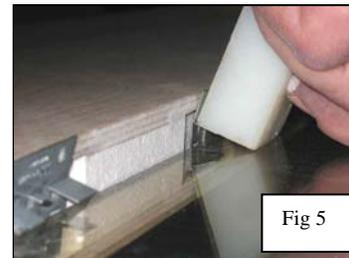

Fig 5
6. Install the second part of the clips by inserting the “tongue” into the raised slot until the locking tab engages (Fig 5).